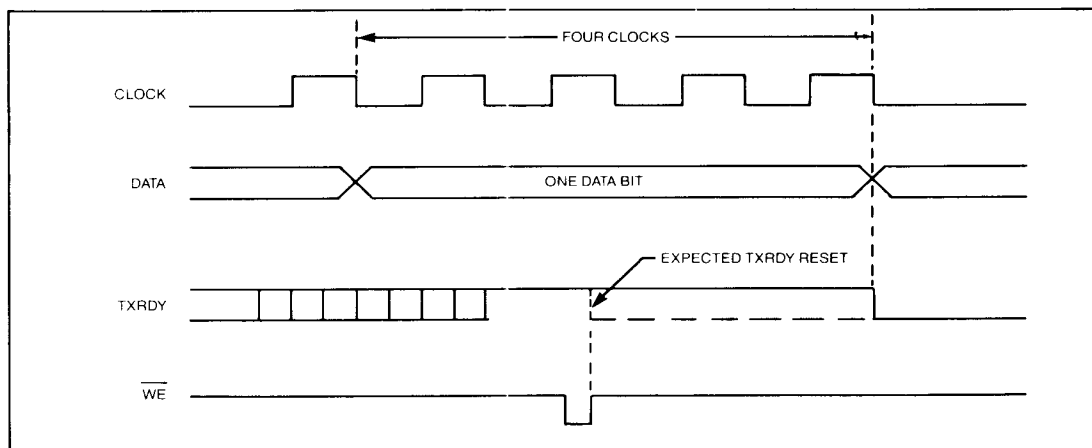

FIGURE 2
- When the Transmitter Holding Register has transferred its contents to the Transmitter Register for the character to be transmitted, it will activate the TXRDY (pin 9) output, to alert the CPU that the next 8-bit character can be accepted. When this new character is loaded into the Transmitter Holding Register (while the Transmitter Register is still transmitting its contents, thereby preventing the Transmitter Holding Register to transfer its character contiguously), TXRDY is not deactivated (reset low to a logic zero) when WRITE ENABLE (WE) is deactivated (set high to a logic one), as shown by the dotted line in Figure 2. An underrun error will be generated if the next character is not loaded before the previous word is completely shifted out, unless the current character is the last character in a sequence.
However, the WD1993 will delay the deactivation of TXRDY until the end of the fourth clock or the end of a data bit being transmitted (see Figure 2).